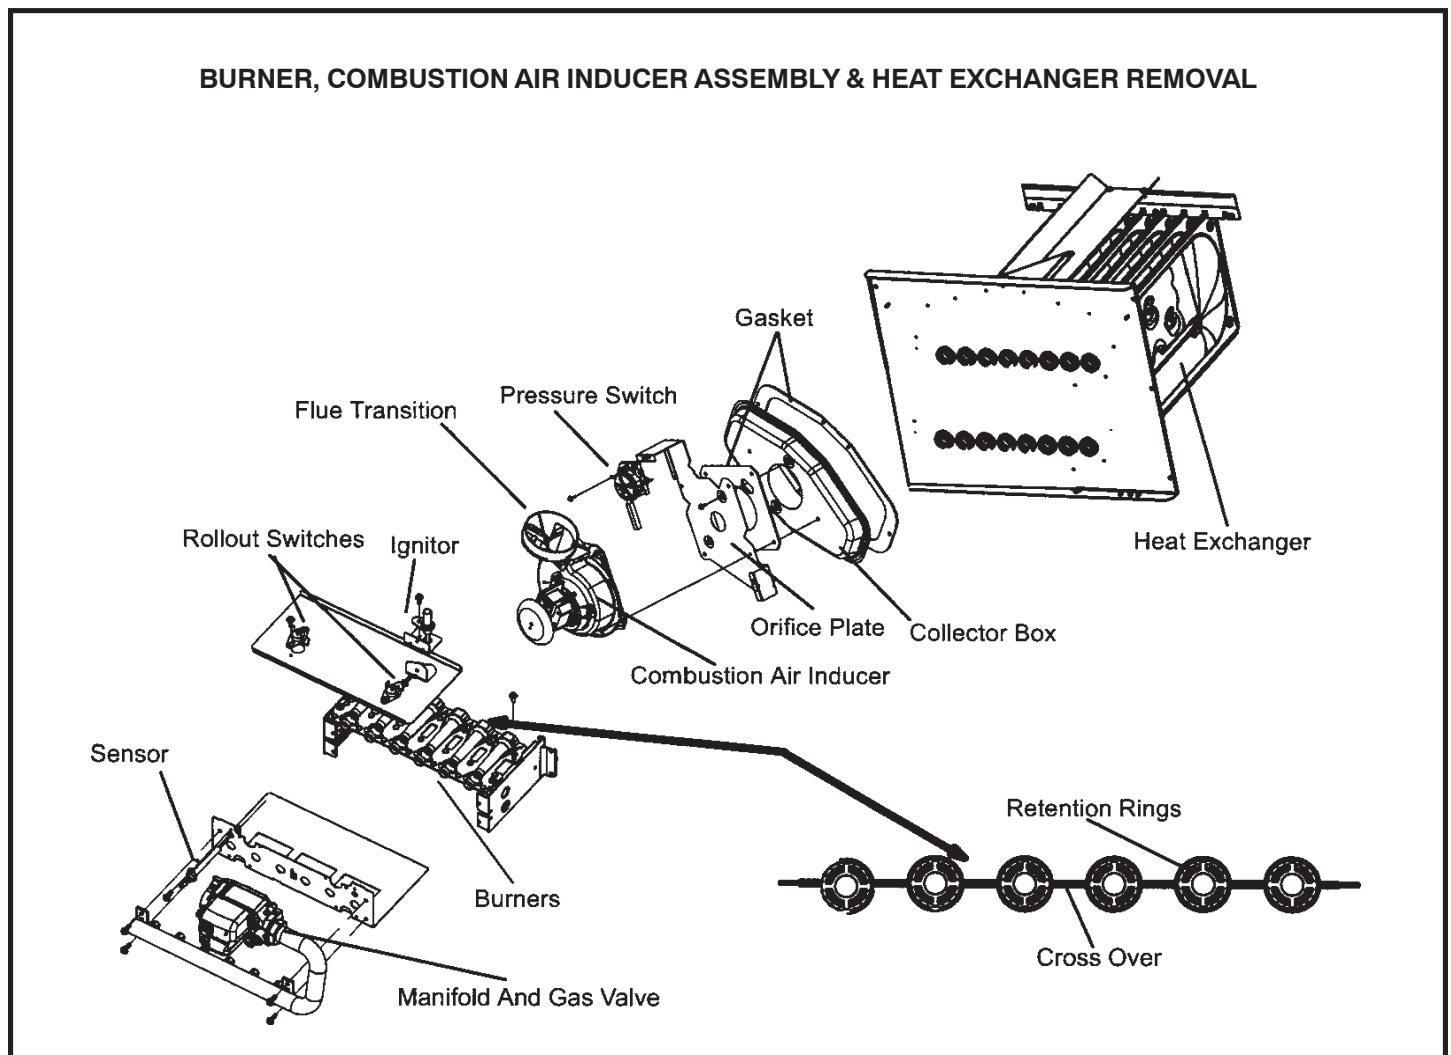

Figure 38
12. To clean burners, run a vacuum cleaner with a soft brush attachment over the face of burners. Visually inspect inside the burners and crossovers for any blockage caused by foreign matter. Remove any blockage. Figure 38 shows burner detail.